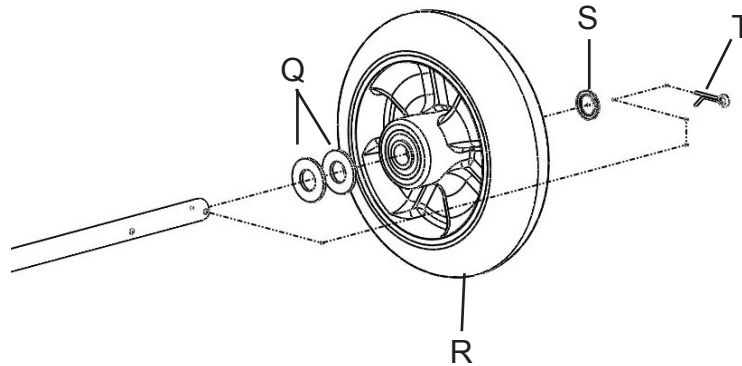

Figure 6
1. Slide two thick 5/8" washers (Q) on the axle.
2. Slide one wheel (R) onto the axle, making sure the long hub portion is toward the wheel bracket.
3. Slide one thin 5/8" washer (S) on the axle (see Figure 6).
4. Insert one cotter pin (T) through the hole on the end of the axle and spread the ends of the cotter pin apart using a regular screwdriver and a hammer.